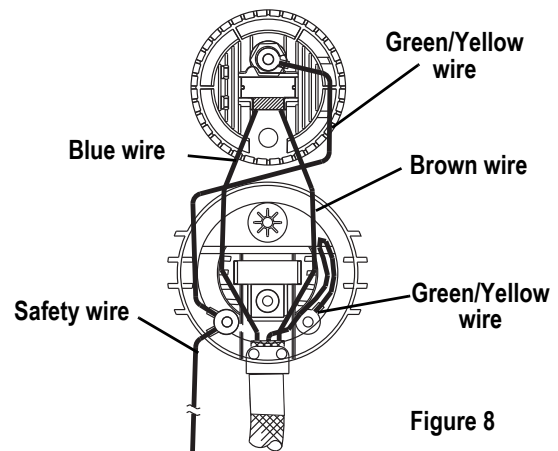

Figure 8
Step 21: Lay the leads in the bottom half of the cable clamp (located in the housing socket casting [1]), making sure that the cable insulation jacket extends slightly past the screw holes in the housing socket casting. Then, route the wires as shown in Figure 8.
Step 26: Before proceeding, check again to make sure the wires are still positioned as indicated in Figure 8. Adjust if necessary.